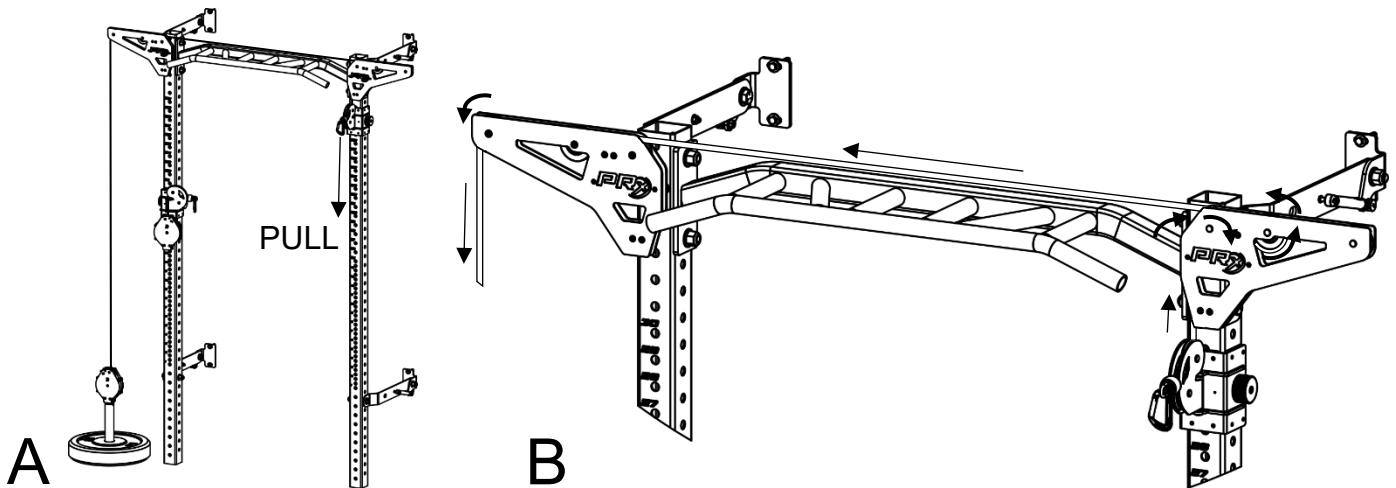

Figure 17: A) System configured for lat pulldowns on right side of rack, B) Cable run for lat pulldowns
1. On the side where the Lat Pull Down will NOT be performed (left side of **Figure 17**), remove the Load Pin from the Cable Retractor. Unlock the Cable Retractor and pull it up and over the Upper Arm and rest it on the Pulley Block on the Trolley (**Figure 17A**). Lock the Cable Retractor.
2. On the side where the Lat Pull Down WILL be performed (right side of **Figure 17**), remove the Load Pin from the Cable Retractor. Unlock the Cable Retractor and pull it up and over the Upper Arm and over to the Upper Arm on the other side of your rack (**Figure 17B**).
4. On the side where the Lat Pull Down WILL be performed (right side of **Figure 17**), move the Trolley up on the rack until it is right underneath the Upper Arm. Lock the Cable Retractor. The system is now set up for Lat Pull Downs (**Figure 17A**).